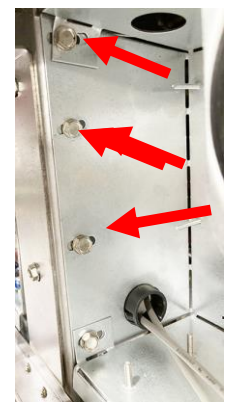

Figure 68
68. Reattach the component box using four (4) screws on the left and right sides of the box (see Figure 68).